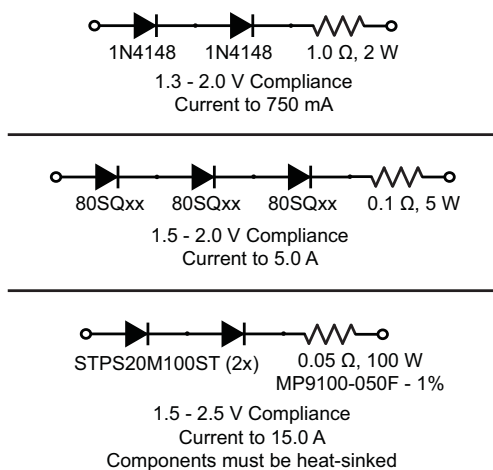

Figure 1. Laser Test Loads
- We recommend you initially set up the WLD using one of the test loads illustrated in Figure 1.